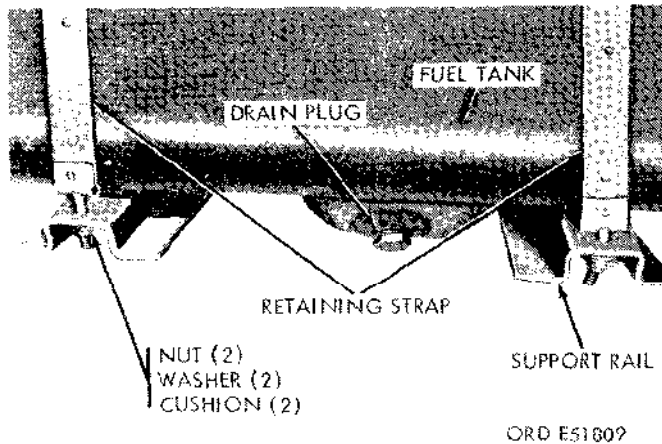

Figure 2-88. Fuel tank.
- (1) Remove the drain plug and drain the fuel tank (fig. 2-88).